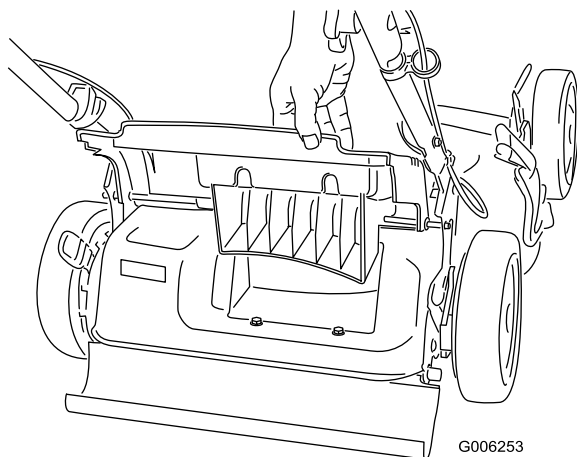

Figure 22
1. Raise and hold up the rear door (Figure 22).